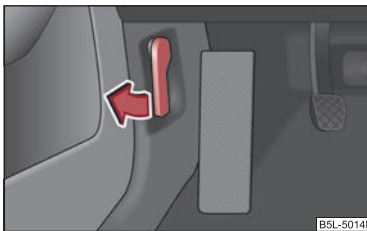

Fig. 12 Bonnet release lever
- Pull the unlocking lever below the dash panel on the driver's side ⇒ fig. 12. ▶